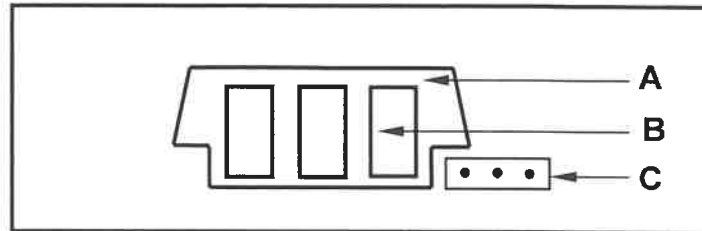

FIGURE 6.3
6.3 FIGURE 6.3 below shows material used in a specific concrete floor construction.